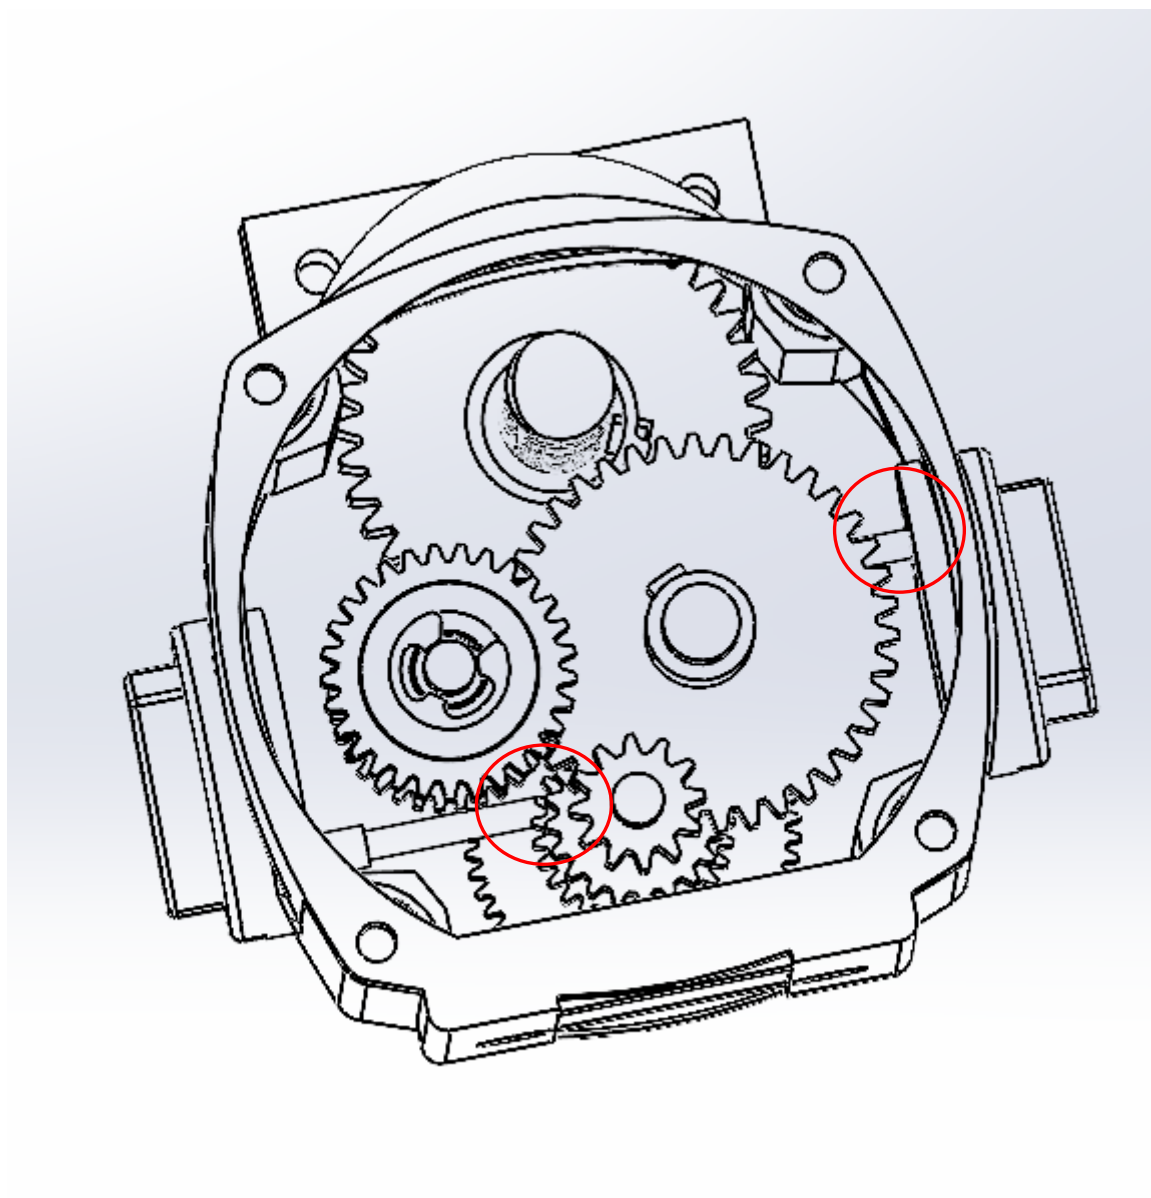

Figure 5.22
- 5.7.2 Replace the knobs, taking care to fit them into the slots between the gears shown in the circles in figure 5.22;